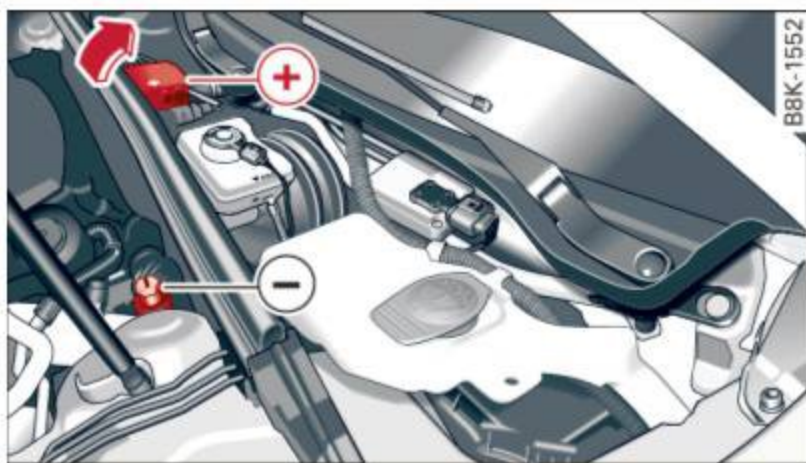

Fig. 174 Engine compartment: Connectors for charger and jumper cables
- ▶ Open the red cover on the positive pole ⇒ fig. 174.